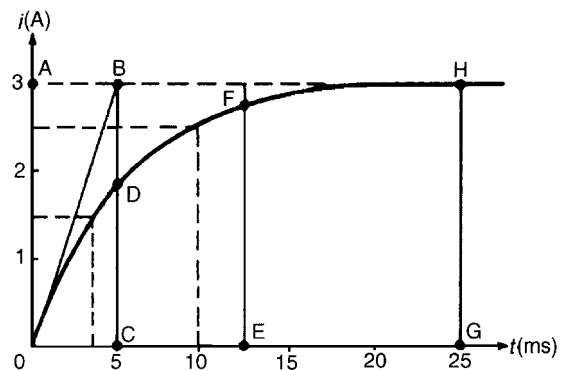

Figure 18.12
- With reference to Fig. 18.12, the initial slope is obtained by making AB equal to 1 time constant, (i.e. 5 ms), and joining OB.